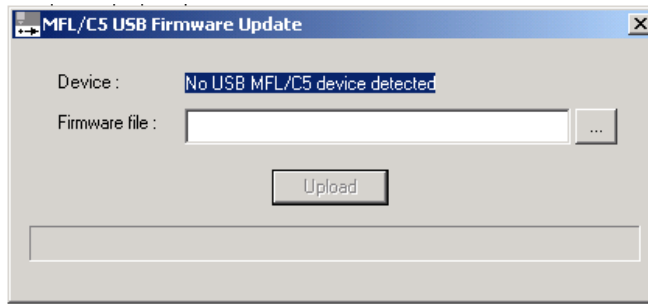
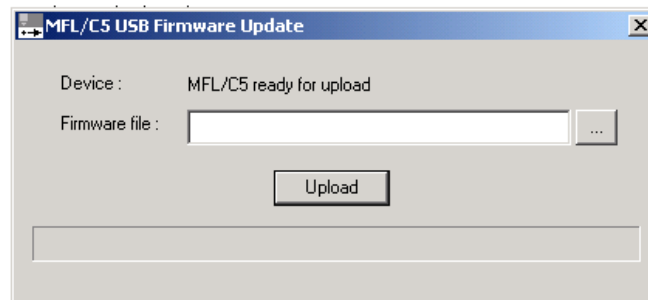

Figure 1
Figure 2
8. Following windows can appear on the PC screen (see Figure 1 and Figure 2).